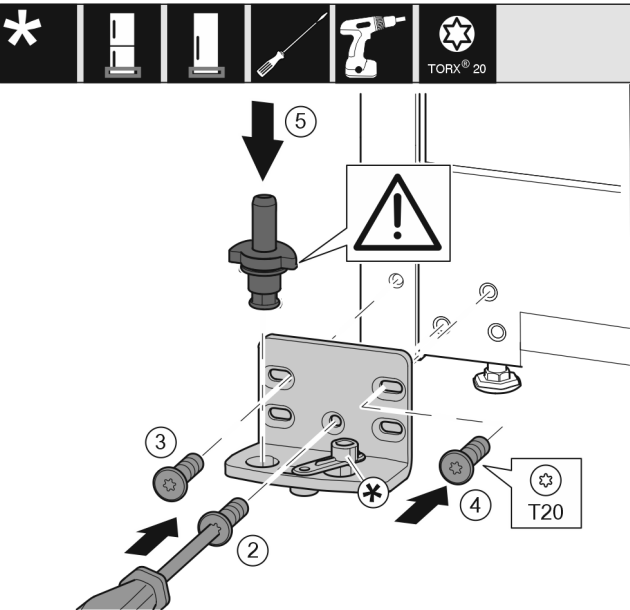

Fig. 14
- ▶ Place the bearing bracket on the other side and screw it on with a T20 screwdriver. Start with screw 2 at the bottom in the middle. Fig. 14 (2)
- ▶ Screw in screws 3 and 4 tightly. Fig. 14 (3,4)
- ▶ Insert the bearing pin completely. Make sure that the latching lug is pointing to the rear. Fig. 14 (5)